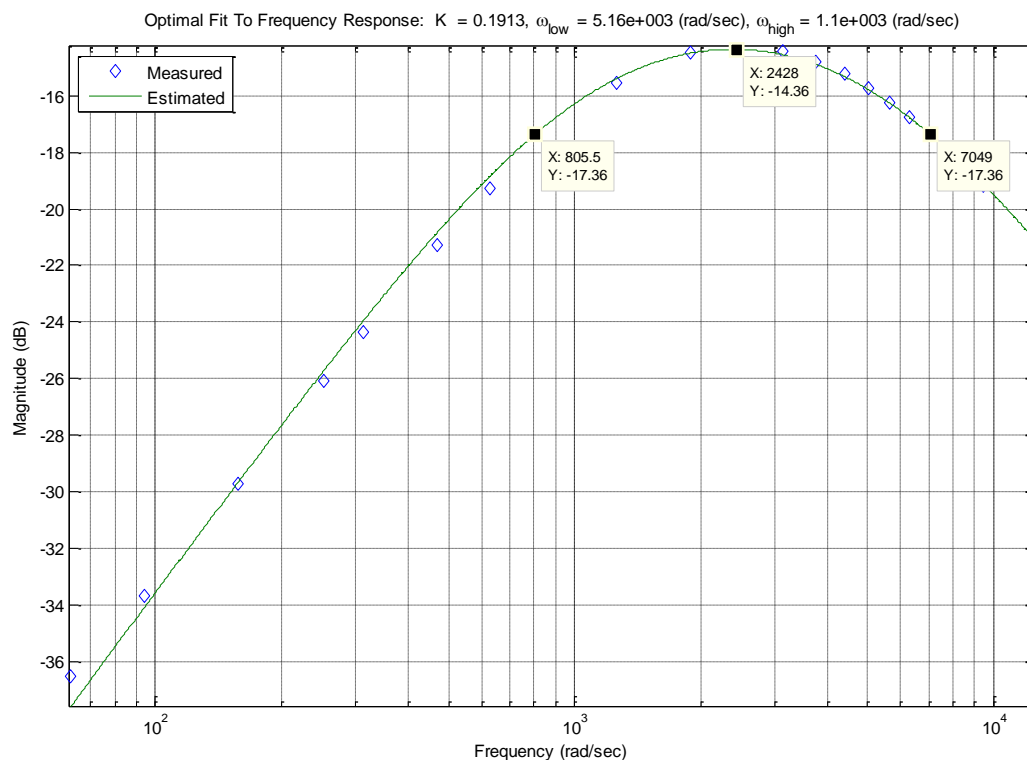

Figure 13: Bandpass filter with an approximate bandwidth of 6244 rad/sec (993 Hz) and Gain of -14.36 dB (0.191)
11. You should get results similar to that shown in Figure 13. Note that your peak amplitude may be different depending on how much you could adjust the gain on the final stage. At this point we mostly are looking for the same general shape.